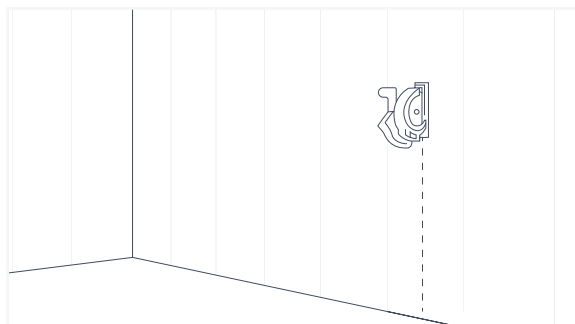

Fig. 39
2. Using the saw, cut through the center of the damaged panel, parallel to the panel joints (Fig. 39).